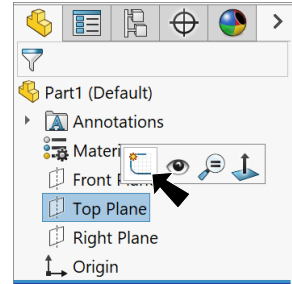

Fig. 1
Step 2. Click **Top Plane** in the Feature Manager and click **Sketch** on the context toolbar, **Fig. 1**.